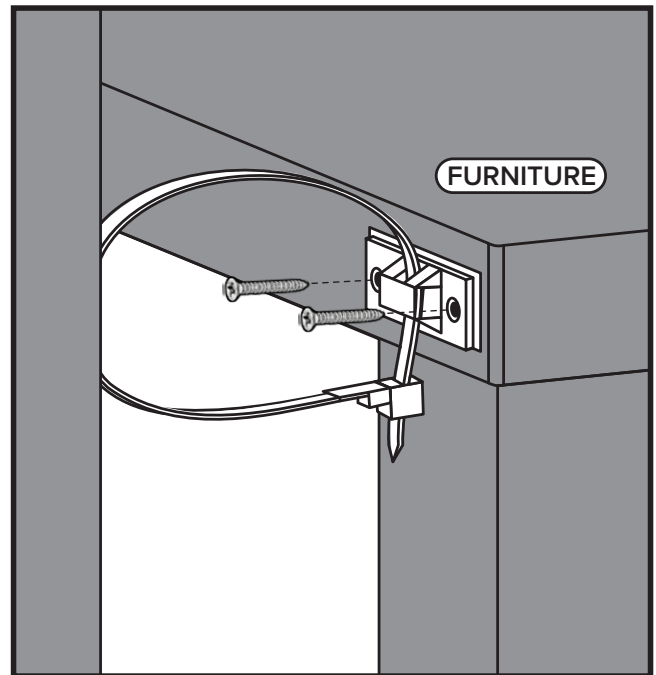

Figure 2
2. The second bracket will need to be attached horizontally to the top of furniture frame. Temporarily move furniture away from wall and place a bracket near top of frame. Mark and drill holes for screws with a 3/32" drill bit. Attach bracket to furniture piece with the two 3/4" screws. (Figure 2)